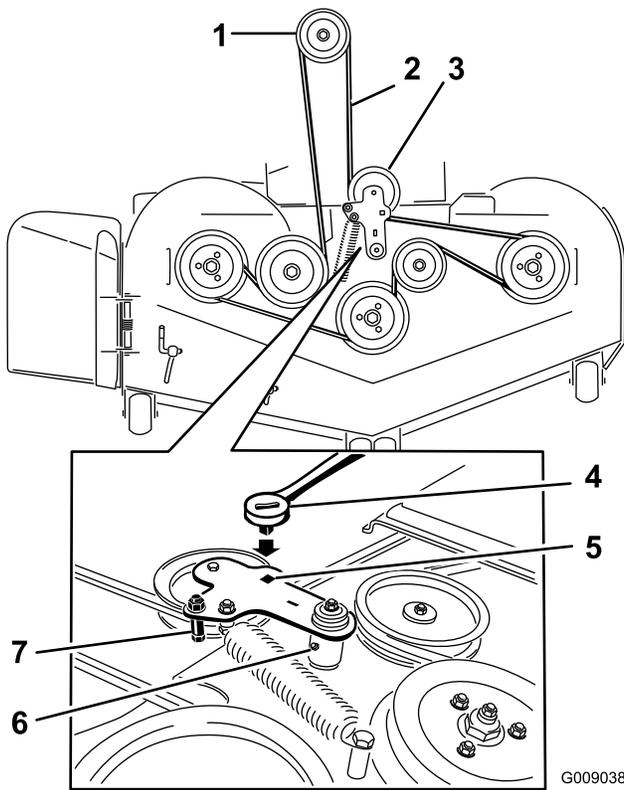

Figure 113
5. Lift up the floor pan and insert a ratchet into the square hole in the deck idler (Figure 113).
6. Rotate the deck idler clockwise and remove the mower belt (Figure 113).